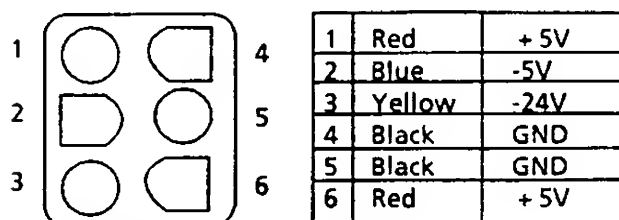

Figure 250-3 Front View of 6 Pin Connector of PSE-AD-1 and PSE-DD-1 PSUs
E. Plug in the 3 prong AC Power Line Cord into the 117V AC receptacle and check the DC output voltages, which can be read on the corresponding 6 pin connector (J4) of each CCU, in accordance with Figure 250-3.